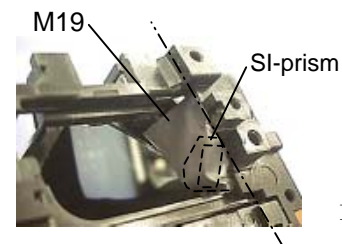

Fig.72
- Stick M19 on 0-A101 as shown in Fig.72, using care that do not apply a stress to the SI prism.